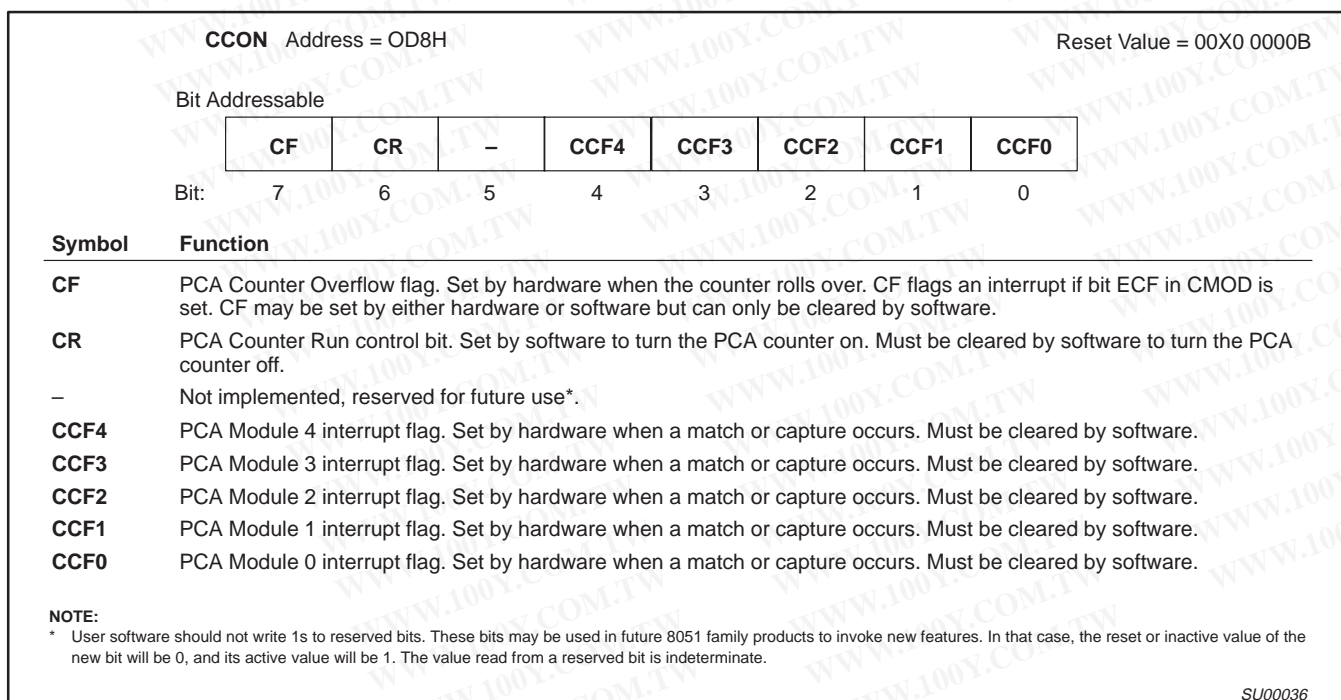

Figure 18. CCON: PCA Counter Control Register
The CCON SFR contains the run control bit for the PCA and the flags for the PCA timer (CF) and each module (refer to Figure 18). To run the PCA the CR bit (CCON.6) must be set by software. The PCA is shut off by clearing this bit. The CF bit (CCON.7) is set when the PCA counter overflows and an interrupt will be generated if the